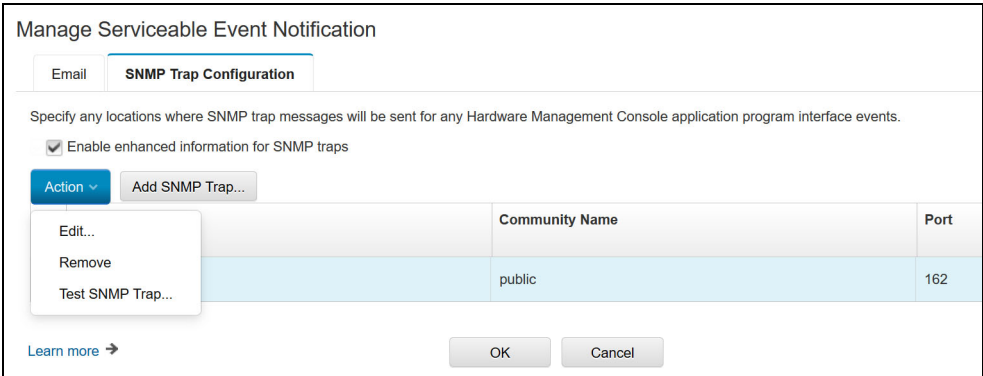

Figure 12-4 HMC test SNMP trap
4. To verify the successful setup of your environment, create a Test Event on your DS8900F MC by selecting the IP address and **Test SNMP Trap**, as shown in Figure 12-4.